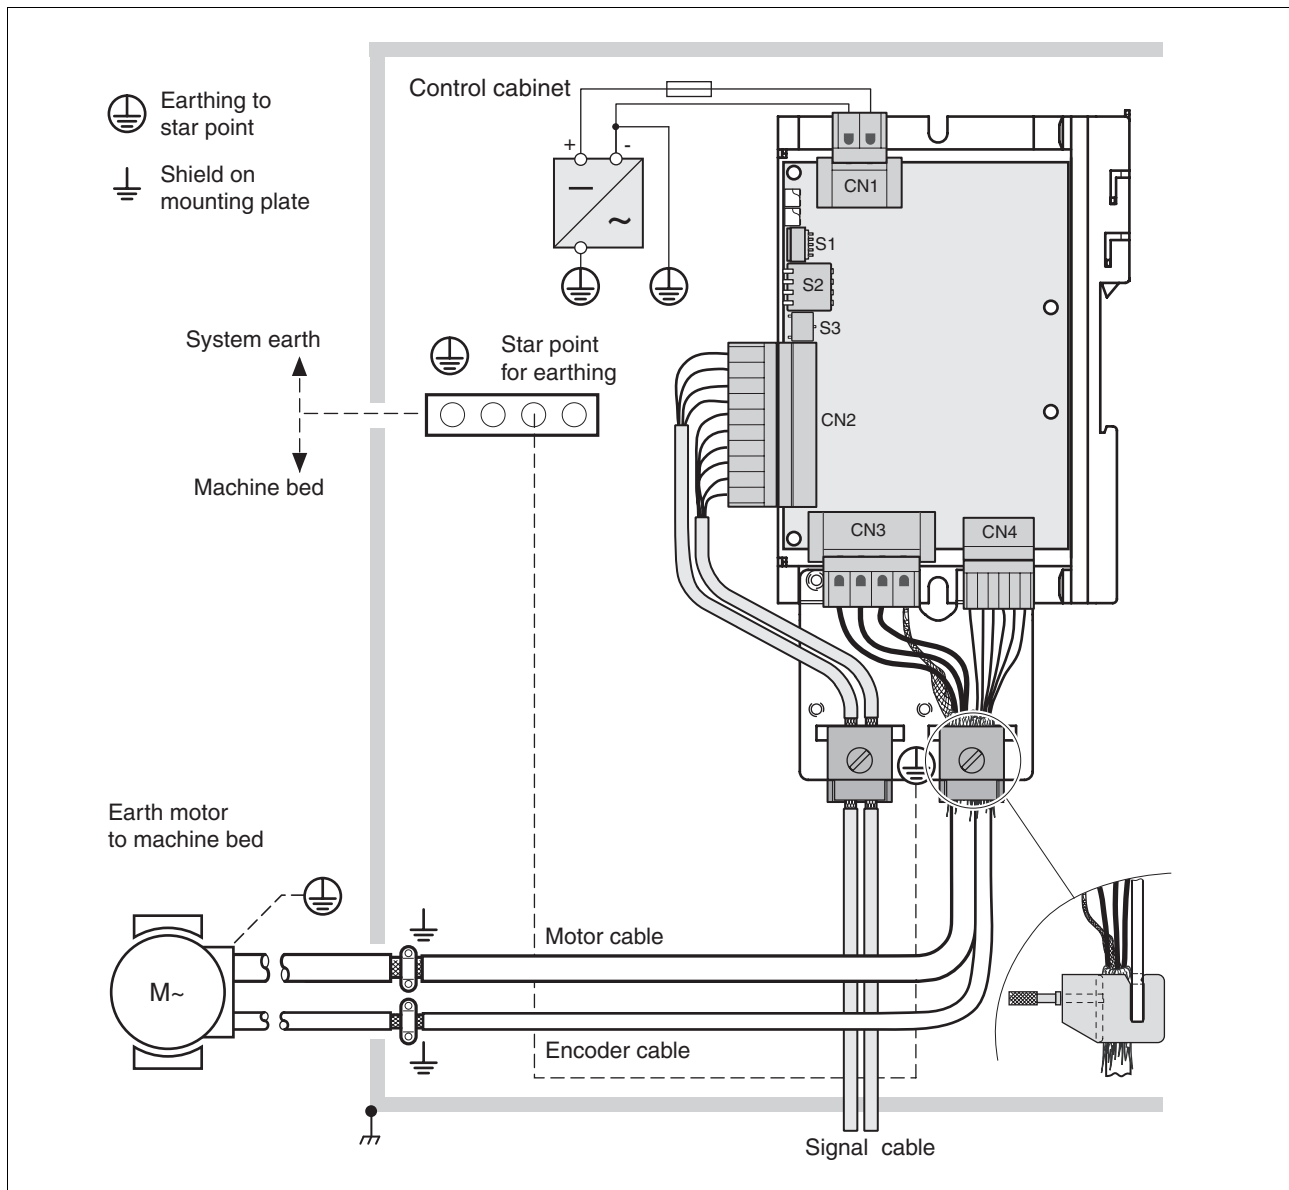

Figure 4.1 EMC measures
- EMC kit* The optional EMC kit improves the EMC characteristics. Shielded cable must be used with this plate. The Figure 4.1 "EMC measures" shows an example of the installation of this plate. Two retaining screws and two SK terminals are included with this accessory.